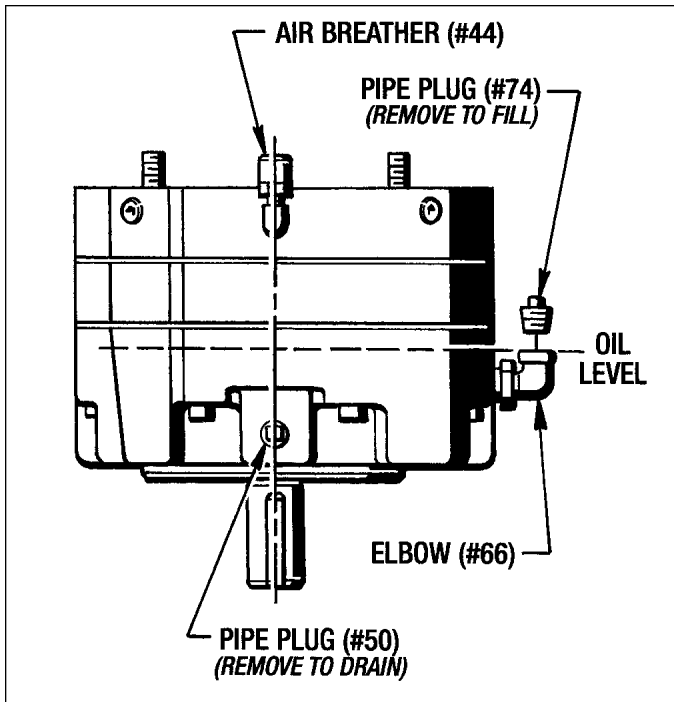

Figure 4.3 - Vertical Down Brake Lubrication
3. Vertical Down Brake *Figure 4.3*
(See Figure 4.3 on next page.)
2. Remove the Sq. Hd. Pipe Plug (#74) from the Elbow (#66) to fill the brake with fresh oil to the top of the Elbow (#66) as shown in Figure 4.3. **Oil capacity is approx. 1 Pint.** Replace the Plug (#74).